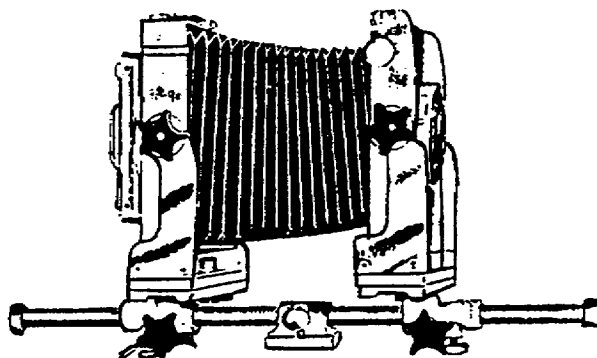

Figure 1-26. 4x5-inch View Camera.
a. The 4x5 view camera functions a little differently from your average camera (fig 1-26). Some of the differences are:
- (1) Movable front and rear frame.
- (2) Movable front and rear carriage.
- (3) Swing and tilting front and rear carriage.
- (4) Front and rear focusing.